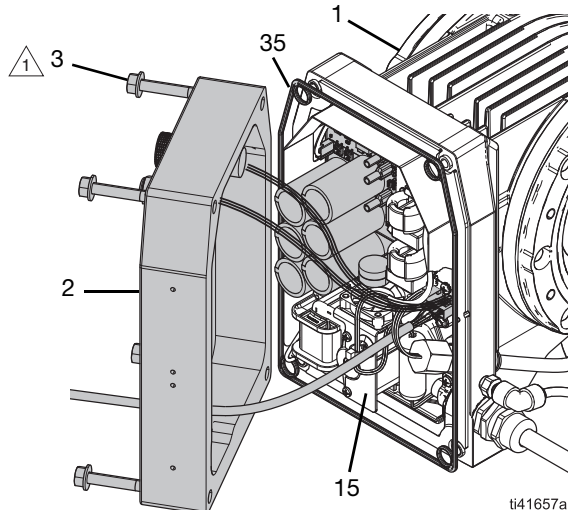

FIG. 2: Control Cover
3. Carefully remove the control cover (2):
- a. Carefully tilt the control cover (2) away from the control board (15). See FIG. 2.
- b. Disconnect all wires from the control cover (2) to the control board (15). See **Electrical Schematics**, page 44.
3. Install the control cover (2):
- a. Carefully hold the control cover (2) in place at an angle near the control board (15). See FIG. 2.
- c. Connect wires from the control cover (2) to the control board (15). See **Electrical Schematics**, page 44.